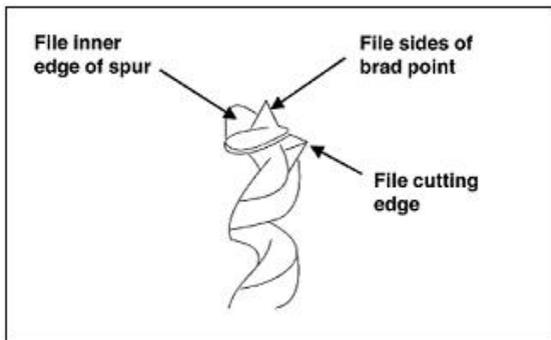

Fig 8
- Sharpen the bit by using a small, smooth file, following the original shape of the bit. File the inside edge of the spur, the sides of the brad point, and the cutting edge inwards toward the flute of the bit. See Fig 8. Do not file the outside edge of the spur as this will affect the diameter of the bit.